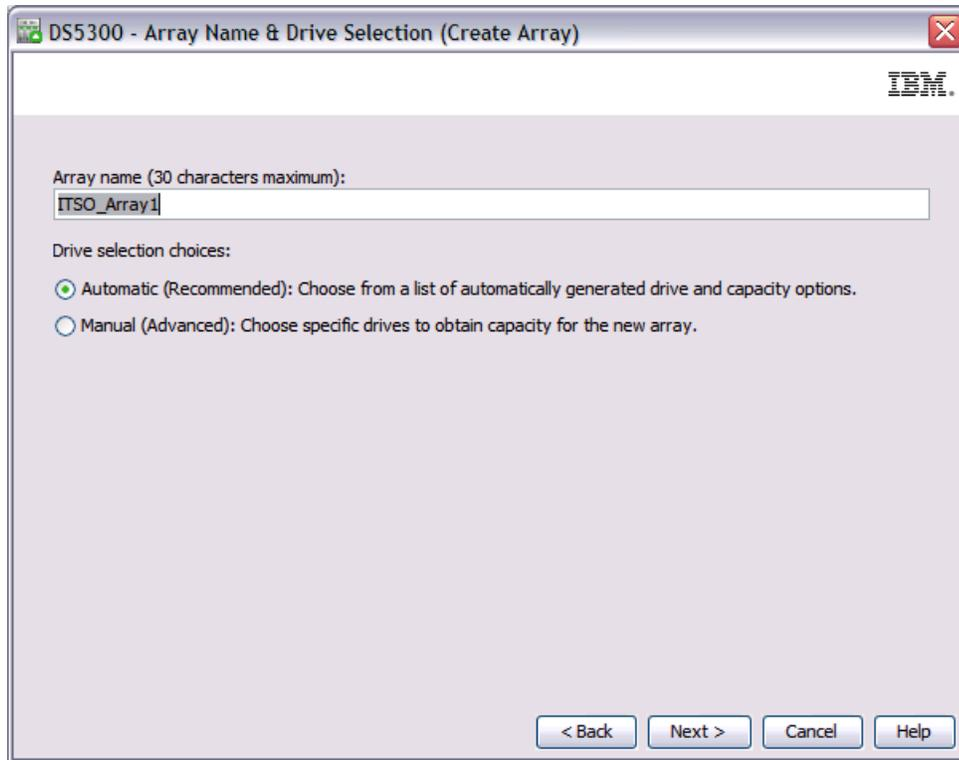

Figure 3-10 Create array with automatic configuration
2. After you specify the array name, you have two choices for drive selection, automatic and manual, as shown in Figure 3-10. The default is the automatic method. In automatic mode, the RAID level is used to create a list of available array sizes.